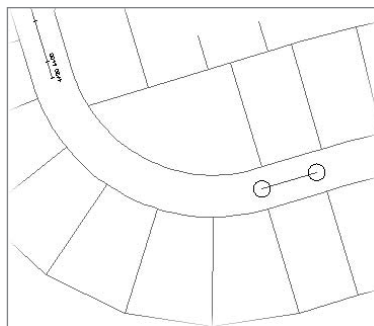

Figure A.52
10. Enter **200** $\downarrow$  at the command line to set the radius. The arc should be placed as shown in Figure A.52.